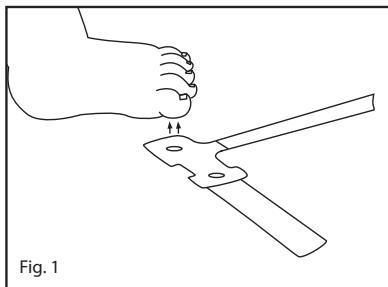

Fig. 1
2. Refer to **Fig. 1**. Position the emitter window (*) of the attachment wrap on the top of the great toe/thumb nail bed. The sensor can point toward or away from the patient.